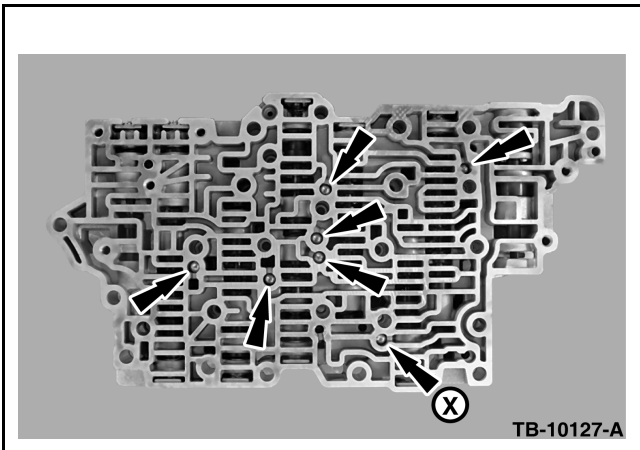

Figure 2 - Article 11-12-10
5. Remove one (1) check ball identified as X. (Figure 2)
- a. Proper check ball locations on the remaining six (6) valve body check balls shown with arrows. (Figure 2)